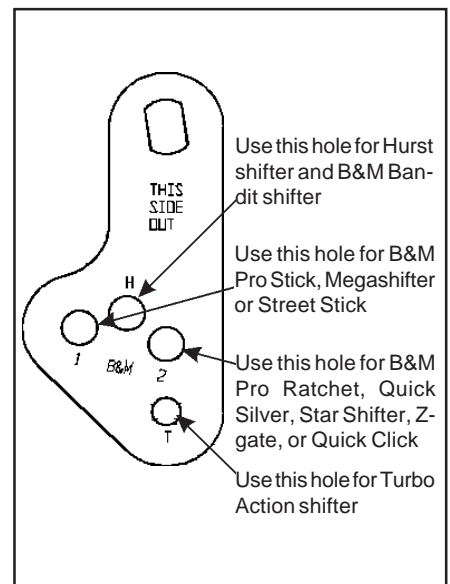

Figure 9
**STEP 35.** Move the transmission selector lever by hand to full rear position (LOW). Operate the shifter lever to the low gear position (ratcheted all the way back). Adjust the large nuts on the cable so that the swivel will slide into the hole in the selector lever that is labeled "B&M2". See **figure 9**. Tighten the large nuts completely. Be sure that the swivel will slide freely in and out of the hole in the selector lever. **Note: The shifter will not operate correctly unless the B&M2 hole in the shift lever is used.**